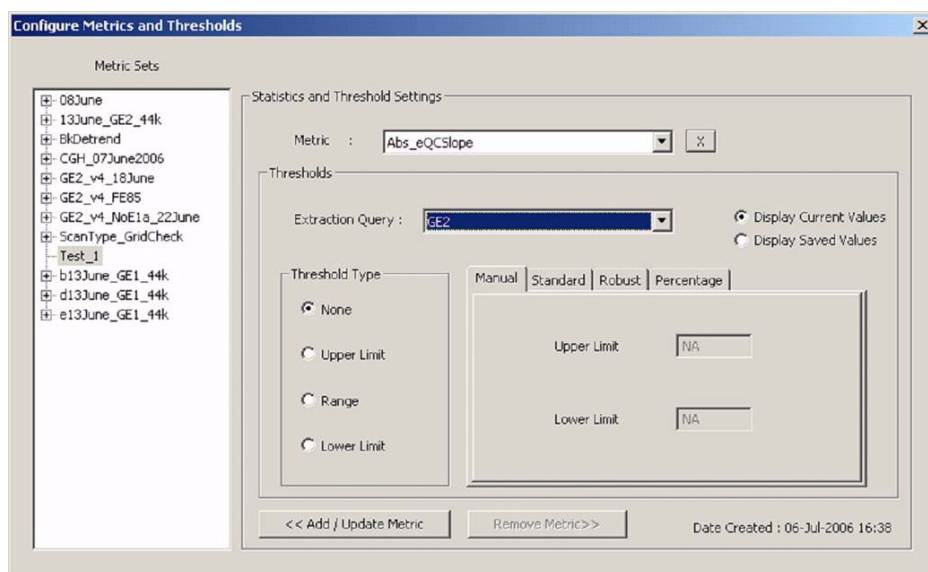

Figure 15 2-color gene extraction selected to be used with the metric set
- 2 Select the metric from the **Metric** pull-down list to be associated with the selected metric set. In Figure 15, **Test_1** is selected as the metric set.
This query will filter for the appropriate extractions from your database, so that just the data from the queried extractions will be used in calculation of various statistical summary values that may be used in setting thresholds, described in “To set thresholds” on page 29. Figure 15 shows GE2 selected as the Extraction Query. The metric set will be used with two-color Gene Expression extractions.